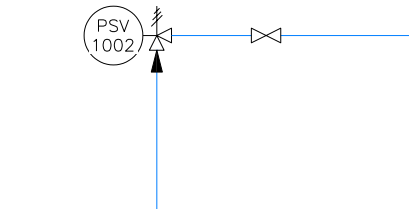

Figure 2-84 Location of the gate valve
10. Place a gate valve on the same line, as shown in Figure 2-84.